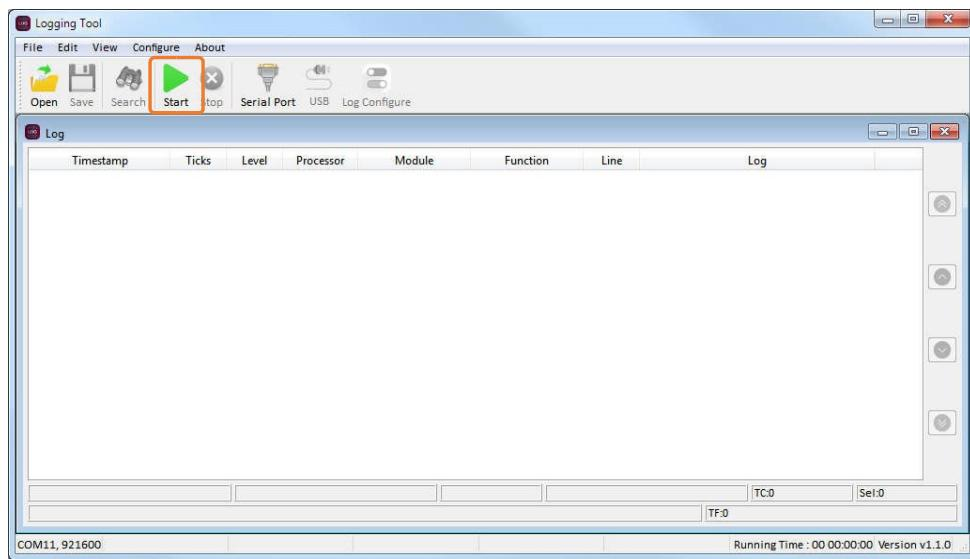

Figure 38. Start Button
- 4) Click “Start” as shown in Figure 38.